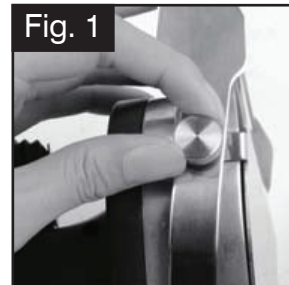

Fig. 1
2. Remove the lock screw and adjustment ring. (Fig. 1)